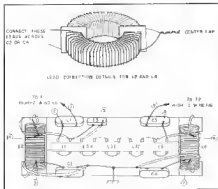
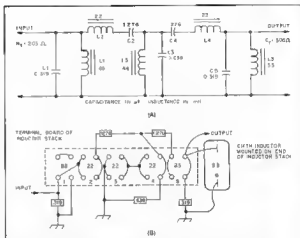
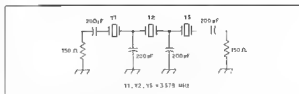
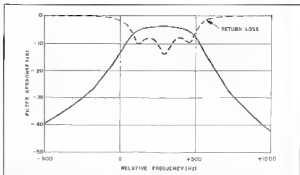

Fig 2—Schematic diagram showing L2 and L4 lead connection and wiring of inductor stack (L1, L3, L5).
Fig 4—Schematic diagram of the SSB band-pass filter (A). Shown in B is a pictorial wiring diagram of the terminal board on the inductor stack.
Fig 2—A simple CW filter using three crystals
Fig 3—Frequency response of the filter of Fig 2. The dots show the input return loss, indicating the quality of the impedance match.
Fig 2 is a pictorial diagram showing the filter wiring. Note the 44-mH lead connection, as well as the connections between the capacitor leads, the 88-mH stack terminals and the 44-mH inductor leads. Fig 3 shows the finished filter installed in an aluminum box. Before beginning construction, obtain one 88-mH five-inductor stack with a mounting clip and two 44-mH inductors, and then follow steps 1 to 5.
Fig 3—The assembled filter is shown inserted in a CR-800 aluminum box. The 10u bypass switch (S1), and input/output transformers (T1, T2) are at the left and of the box.
winding to the first lead (no sleeve) of the adjacent winding to make the center tap as shown in Fig 2. Do the same for the second 44-mH inductor.
3) Position the 43.5-mH inductors so their leads can be easily connected to the rest of the circuit. Solder the capacitor leads to the stack terminals as shown in Fig 2.
4) Obtain a suitable box and make holes for the inductor mounting clip, the DPDT switch, and the phone jack and phone cord. First, install matching transformers T1 and T2, and the inductor stack with capacitors. Fasten the transformers (with leads pointing up) to the bottom of the box with silicone rubber sealant. Secure the stack to the bottom of the box with a 1-3/8-inch component mounting clip and two no. 6-32 x 5/16-inch screws. Instead of the 8 x 3 x 2-3/4-inch aluminum box shown in Fig 3 (Mouser Stock No. 537-CR-800), a small cardboard box may be used to minimize cost.
While audio filters are most often used during CW reception, the SSB operator can also benefit from their use. Shown in Figs 4 and 5 is a passive band-pass filter designed by Ed Wetherhold, W3NQN, for phone operation. This filter was described in Dec. 1979 QST.
A simple and practical filter for a beginner's first CW superhetrodyne receiver is shown in Fig 2. Three crystals are used. The capacitors are 200-pF units, a standard value. Experimentation (done here with the computer) shows that a good filter shape is obtained with an end termination of 150 ohms. Fig 3 shows the frequency response of this filter. The  $\sim 3$  dB bandwidth is 403 Hz, and the insertion loss is 3.8 dB. The loss will be lower with better (higher  $Q$ ) crystals. The impedance match is shown in the figure as a series of dots. This is the return loss normalized to the source impedance—150 ohms for the filter shown.
Fig 4 illustrates the effect of altering the terminating resistance. Fig 4A shows the result of 75-ohm terminations, lower than the desired 150-ohm value. The filter shows some passband ripple and a higher insertion loss. The effect of a 300-ohm termination is shown in Fig 4B, where the peak shape becomes more rounded, with degradation of skirt response. While the poorer frequency domain shape is generally less desirable, the filter with the higher termination has a significantly improved group delay; this filter would be preferred for high-speed data applications.
Fig 4—Frequency response of the filter of Fig 2 with changes in the end terminations. Curve A shows response with 75-ohm terminations; curve B shows the response using 300-ohm resistors. See the text for considerations of which is 'better'.